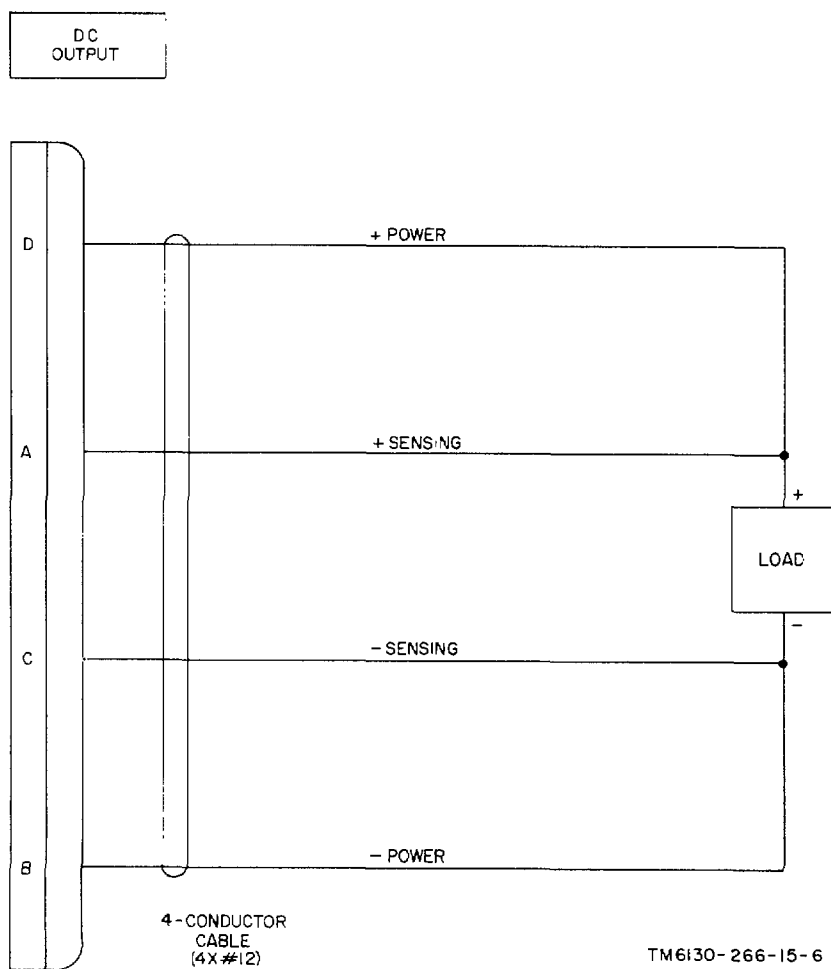

Figure 2-4. Power Supply PP-6224/U, remote cabling.
(2) *Remote*. Use a 4-conductor cable (not supplied) to connect the remote load terminals to DC OUTPUT receptacle J6 on the front panel. Connect the load leads (power) to pins D (+) and B (-). Connect the sensing leads to pins C (-) and A (+) (fig. 2-4).